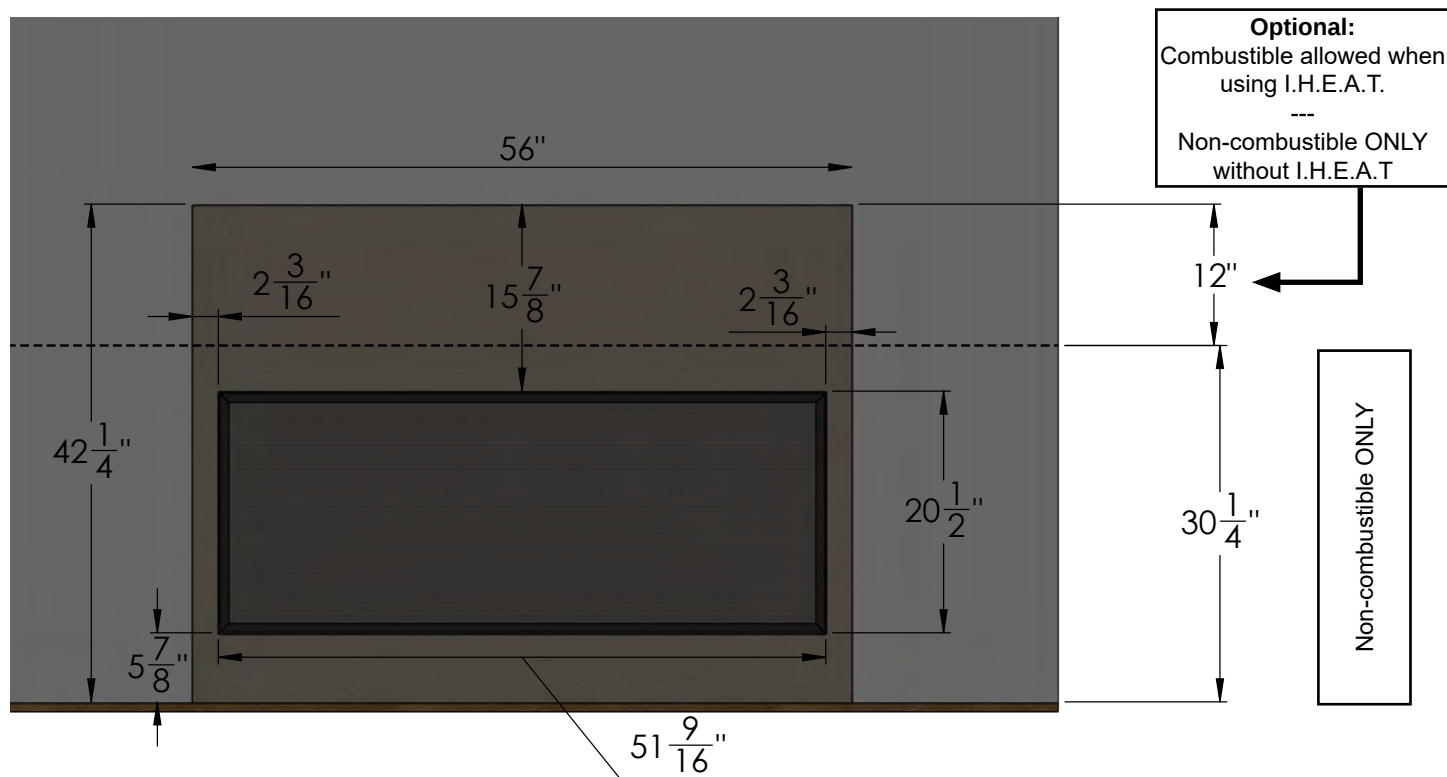

Figure 10.0.03
*See dimensions in Figure 10.0.03.